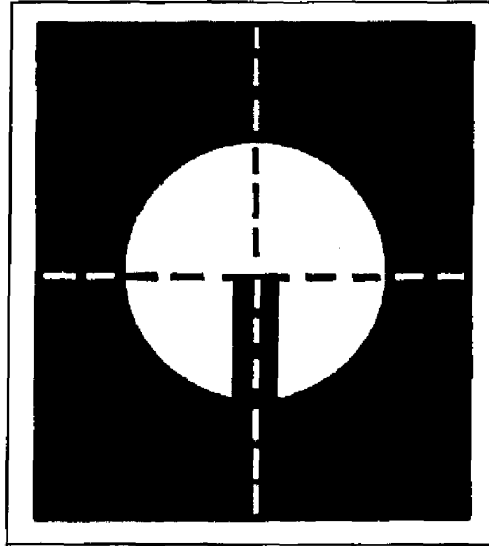

Figure 071-313-3454-6. Correct sight alignment
b. Sight picture. Place top center of front sight blade at bottom center of intended target (figure 071-313-3454-7).